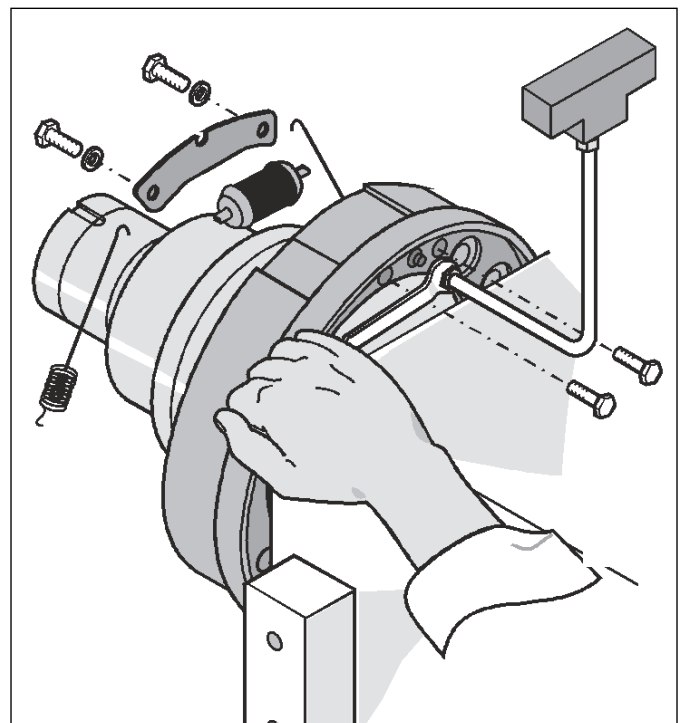

Figure 2-5 Wheel Cylinder Repair
6. Using a flare-nut wrench, disconnect the brake fluid inlet line from the wheel cylinder. Have shop rags available to manage spills. **See Figure 2-5.**